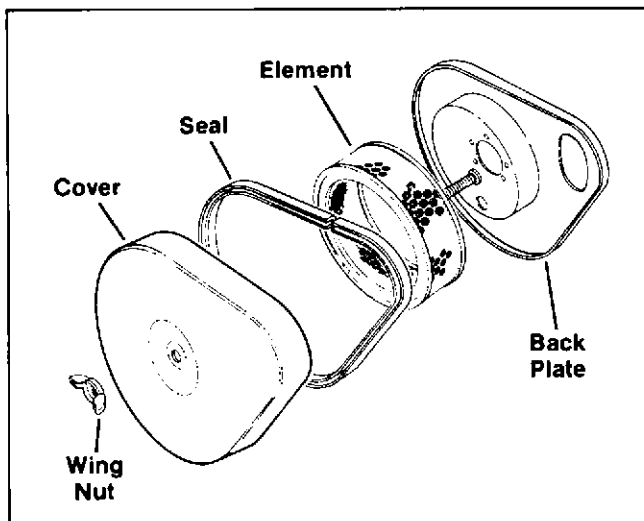

Figure 3-1. Air Cleaner Components
1. Back plate must be securely tightened to carburetor. Replace back plate if bent or cracked. Replace air horn gasket if damaged (see Figures 3-1 and 3-2 for air horn gasket installation instructions).